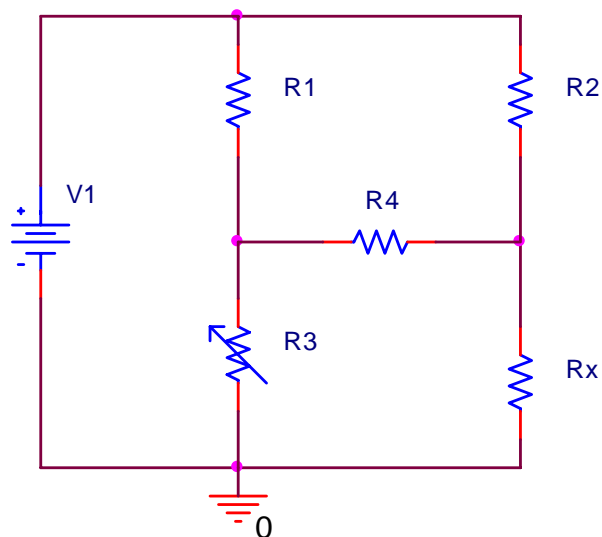

Figure 1. A schematic drawing of a wheatstone bridge (R_3 is a variable resistor and R_x is the resistor to be measured)
Wheatstone bridge circuit is used to precisely measure resistances of medium values, i.e., in the range of 1Ω to $1M\Omega$. In commercial models of the wheatstone bridge, accuracies on the order of $\pm 0.1\%$ are possible. A schematic drawing of a bridge circuit is given in Figure 1. The bridge circuit consists of four resistors (R_1, R_2, R_3, R_x), a DC voltage source V_1 , and a detector (a highly sensitive current meter, represented as one equivalent resistor R_4). The resistance of R_3 can be varied. For accurate measurement, the DC voltage source has to be a highly stable battery. The detector is generally a d'Arsonval movement in the microamp range and is called a galvanometer.
- (1) Construct the circuit as shown in Figure 1 and adjust R_3 so that the current reading on R_4 is zero, and then write down the resistance of R_3 as R_a
- (2) Switch resistors R_3 and R_x and repeat the step (1) and write down the new resistance of R_3 as R_b
- (3) Calculate the resistance of R_x by two measurement results using equation.